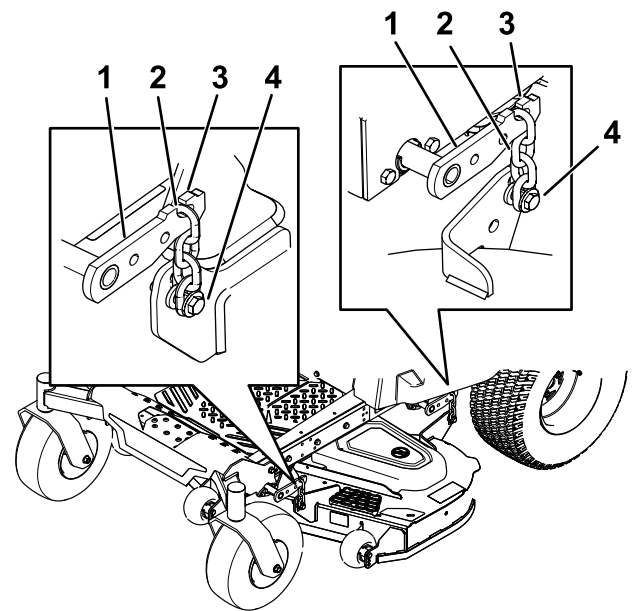

Figure 77
7. Remove the chains from the hooks on the deck-lift arms (Figure 77).
6. Lift the rear of the mower deck and attach the chains to the rear lift arms (Figure 77).
7. Attach the front chains to the front lift arms (Figure 77).